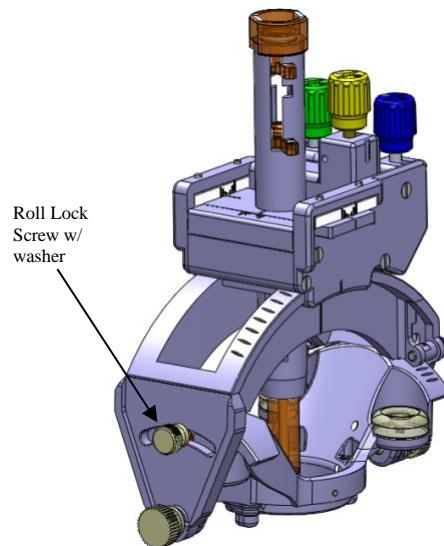

Figure 6: Roll Lock Screw w/ washer
10. Remove the Roll Lock Screw w/ washer from the SMARTFrame XG package to pre-mount in SMARTFrame XG. Screw in partially to the appropriate location on the SMARTFrame XG. **See Figure 6.** Ensure the Roll Lock Screw w/ washer is not tight. This screw will be tightened later in the procedure.
5. The Roll Lock Screw w/ washer must be tightened after the final roll adjustment is complete. **See Figure 6.** The Roll Lock Screw w/ washer must be loosened, for subsequent roll adjustments.